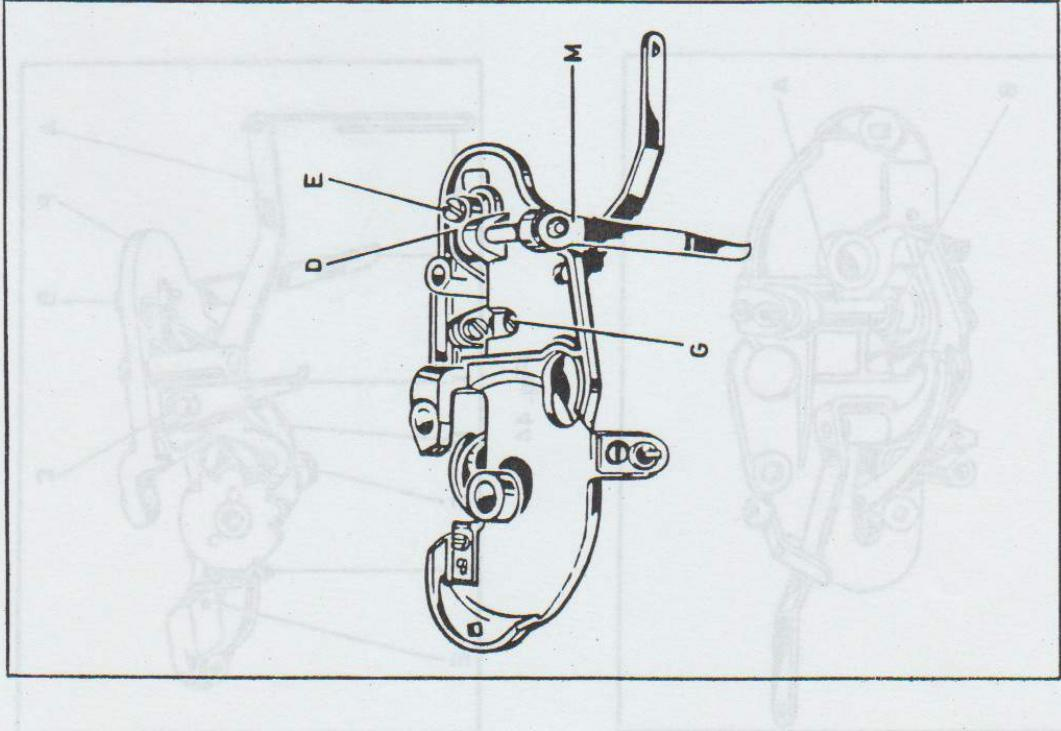
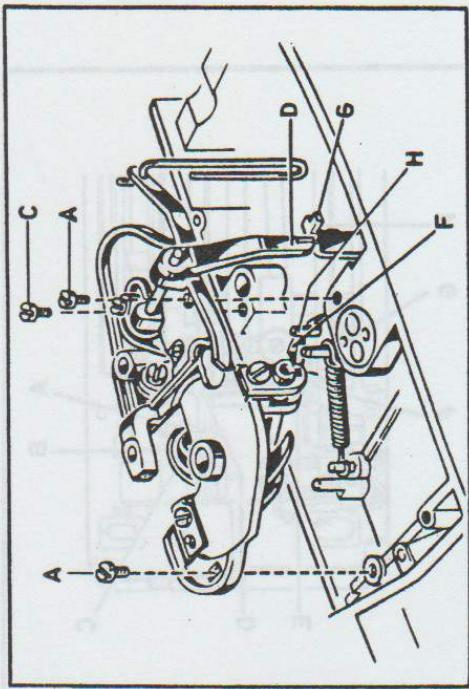

Fig. 46
Fig.47
- loosen grub screw G (fig. 46);
- tighten grub screw G (fig. 46) so as to eliminate the end plays and let the contact fingers free to move;
- position the plate on the arm so as to obtain the following conditions (fig. 47):
- while keeping, by means of a screwdriver, lever D (fig. 47) against lever G, bring contact finger D (fig. 46) near the cam;
- tighten the screw which fastens the lever to the contact finger, making sure that no play exists between contact finger G and the cam and between lever F (fig. 47) and pin H;